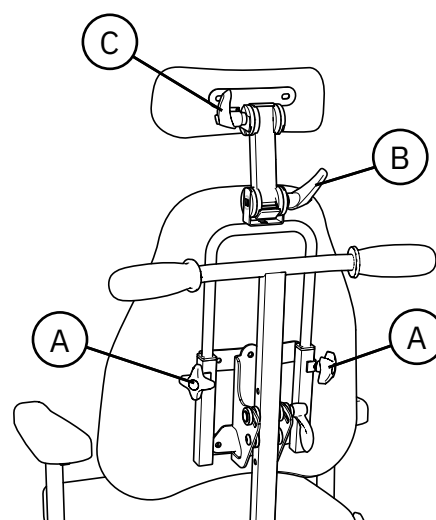

Figure 5.10. Neck support
The head rest is adjustable in height (A), depth (B) and angle (C), see Figure 5.10.